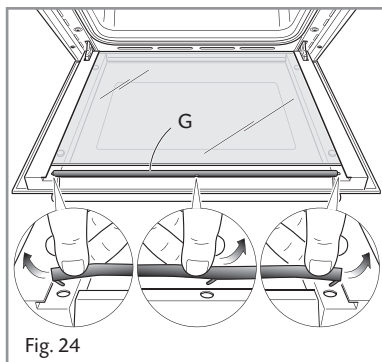

Fig. 24
- Top oven door only: remove the seal **G** by unhooking the no. 3 fixing hooks (fig. 24).